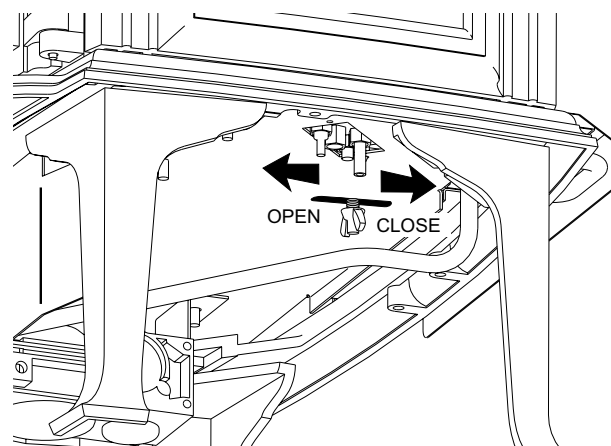

Figure 26. Air Shutter adjustment
17. Adjust the Air Shutter: Replace the gasket disk and fender washer on the shutter stem. See fig. 26. Pushing the shutter stem back will restrict air to the burner. Pulling the shutter forward will increase air. Set the stem at the half-way point in its adjustment travel. You will need to experiment to find the best setting for your particular installation. The shutter is set at the halfway position at the factory.
- Locate and loosen the adjustment stem wing nut protruding from the bottom of the firebox, directly behind the gas valve. See fig. 26.